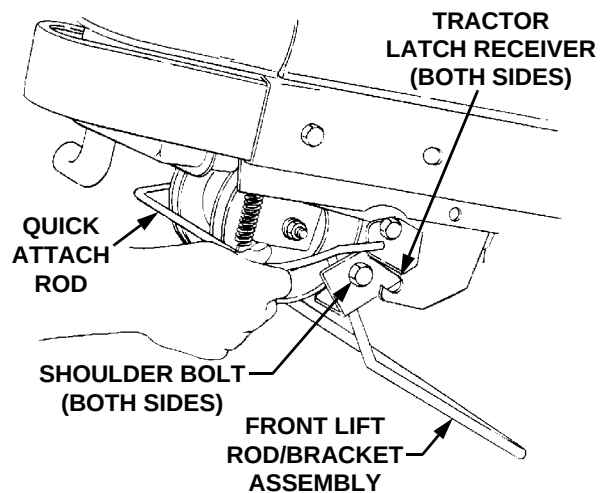

Figure 59
14. From the front of the tractor, push downward and hold the tractor quick-attach rod. Pull the front lift rod/bracket assembly forward to release the shoulder bolts on each side of the bracket from the left and right tractor latch receivers. Release the tractor quick-attach rod (Refer to Figure 59).